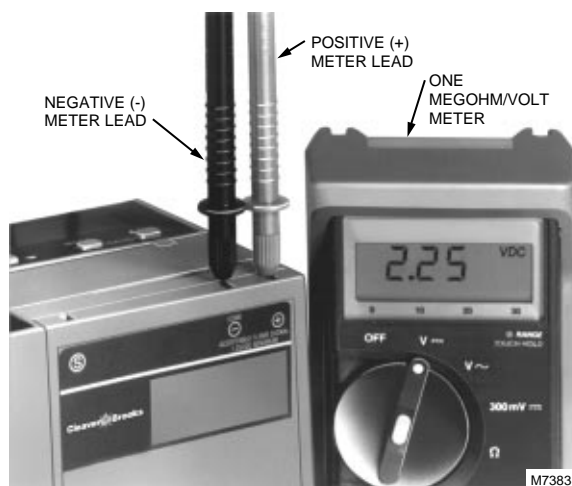

Fig. 22. Flame signal measurement.
Flame Signal Measurement (Table 7 and Fig. 22)
- 3 Insert the positive (red) probe into the + jack of the flame amplifier. Insert the negative (black) probe into the (Com) jack of the flame amplifier, see Fig. 22.